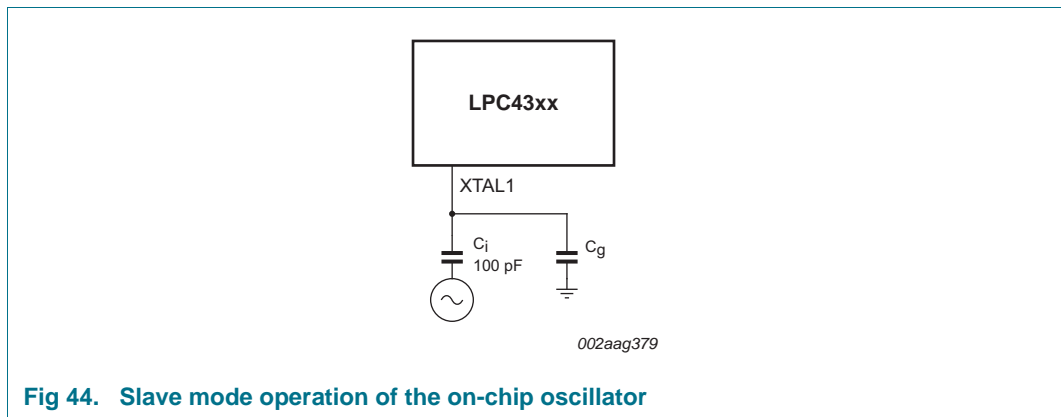

Fig 44. Slave mode operation of the on-chip oscillator
- In slave mode, couple the input clock signal with a capacitor of 100 pF (C_C in Figure 44), with an amplitude of at least 200 mV (RMS). The XTAL2 pin in this configuration can be left unconnected.